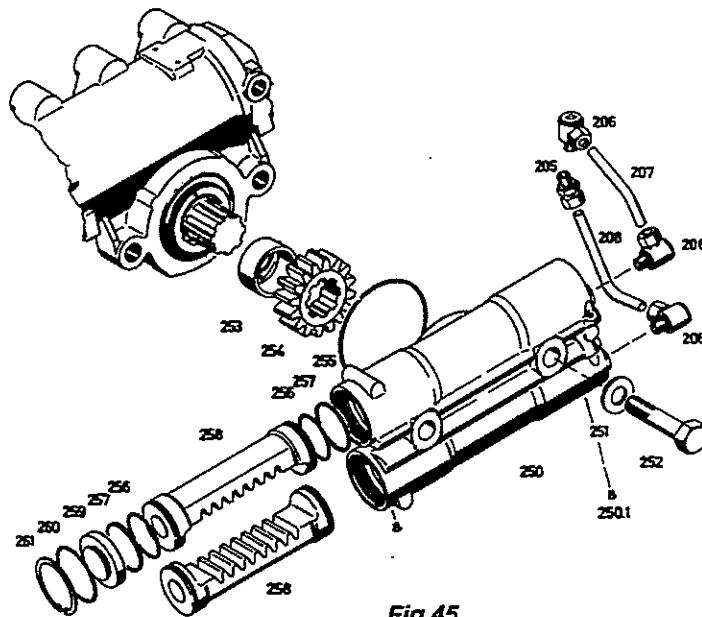

Fig.45
Slide bush (253) and gear (254) as far as possible onto sector shaft (80) (Fig.45).
Place O-ring (260) in radial groove of cylinder bore and press cylinder cover (259) in until the retaining rings (261) can be fitted (*see Fig.45*).